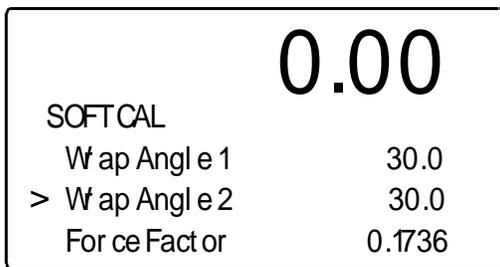

FIG. 2-25 SOFT CALIBRATION MENU/ENTERING WRAP ANGLE 2
- Step 15. Press on the “-” button until the cursor is in front of Wrap Angle 2”. (See Fig. 2-25)